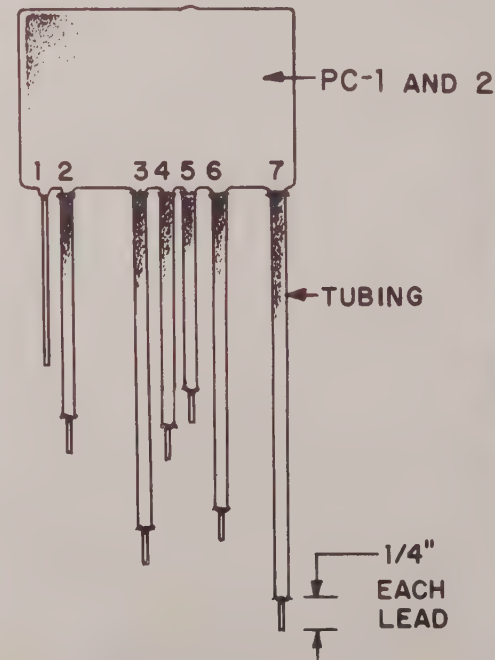

FIGURE 28. TEMPLATE FOR PC-1 AND PC-2
- ☒ PC-1 and PC-2, packaged circuits. Prepare as shown in Figure 28. Figure 28 is shown actual size. Use it as a template for cutting leads and tubing.